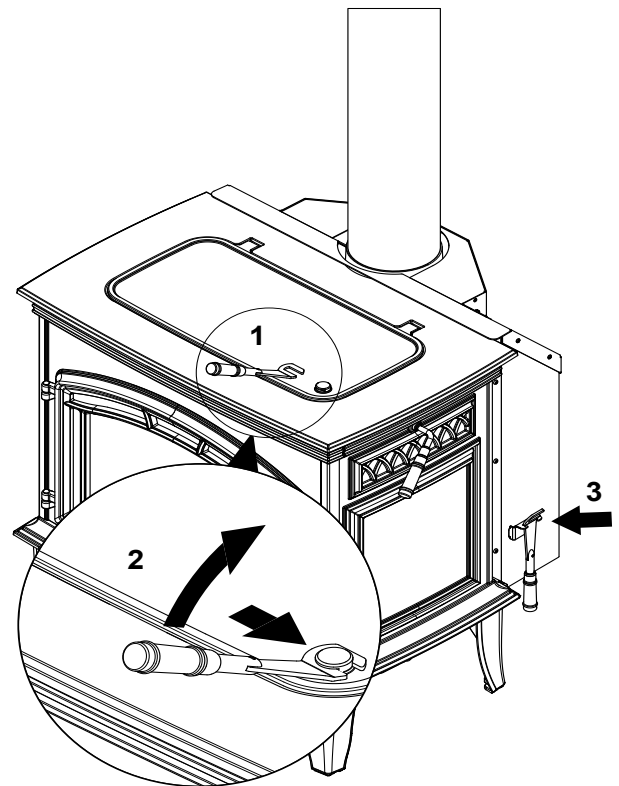

Figure 14.2
Attach griddle handle to receiver button by sliding handle in a left to right motion ensuring that the handle is securely engaged (**Figure 14.2**).
- Lift griddle handle to open the cast griddle lid. Leave griddle handle in place when in open position (**Figure 14.2**).
Use griddle handle to carefully close cast griddle lid, remove griddle handle and store on handle storage hanger (**Figure 14.2**).